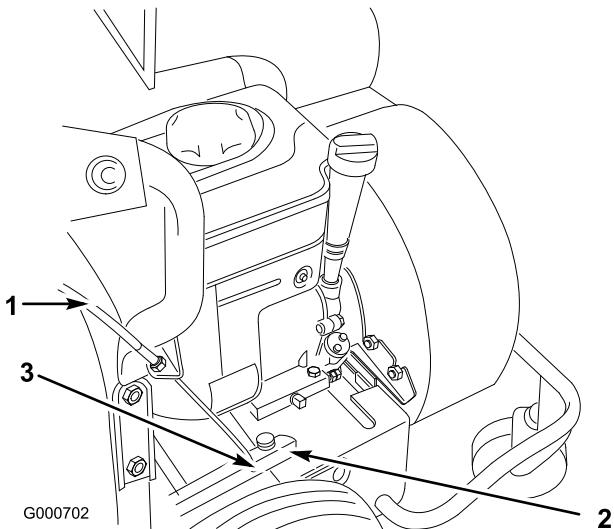

Figure 5
5. Hook the lower end (ball end) of the traction control wire in the keyhole slot in the arm on the traction drive guard (Figure 5).
6. Secure the ball in the keyhole slot with a bolt (10-32) and nut (10-32) (Figure 5).